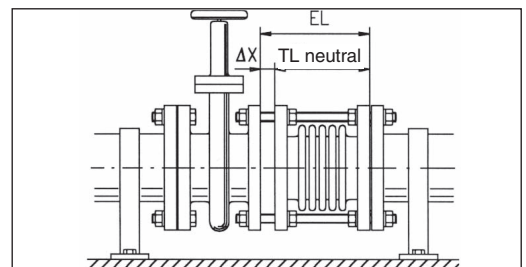
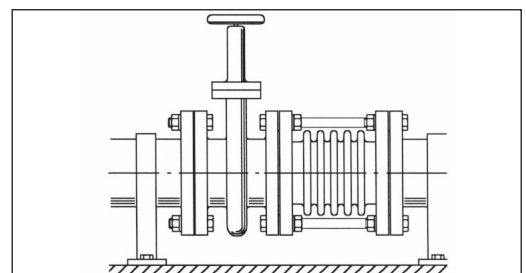

Fig. 18
Fig. 19
- Flange the disassembly joint with one side to the pipe end (Fig. 18). On the other side, pull the disassembly joint towards the components (valve, shut-off valve, pumps etc.) either with long bolts (unrestrained) or with the delivered threaded rods (restrained) (Fig. 19). When installed correctly, the disassembly joint is restraint.